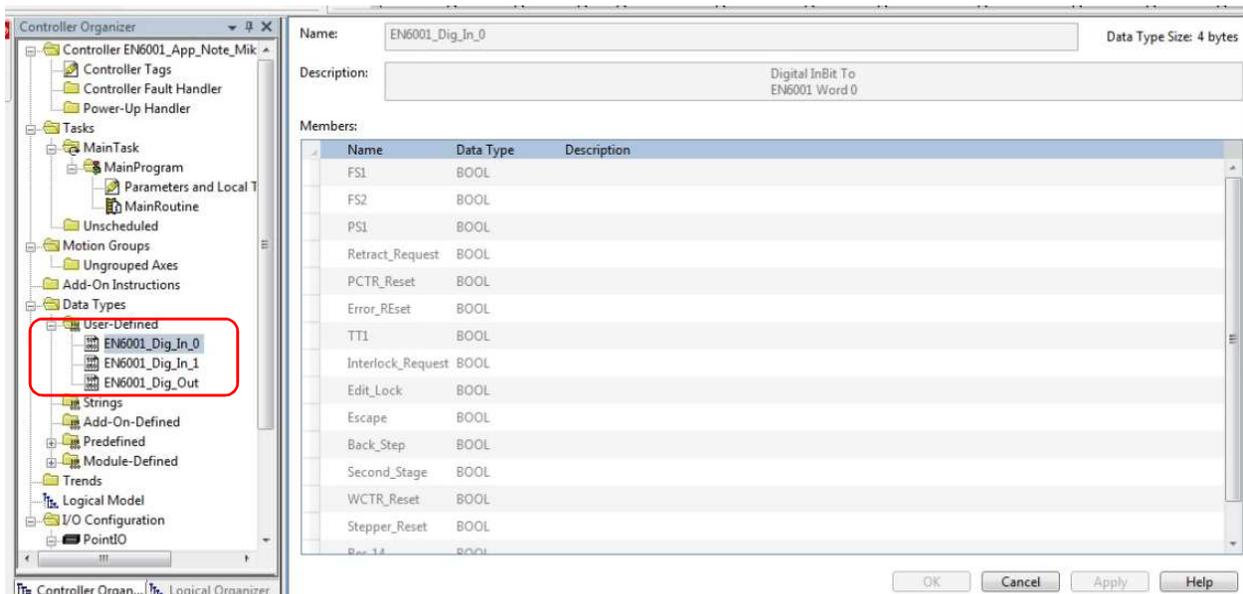

Figure 9 User Defined Data Type
2.2.2. Create three User Defined Data types (UDT) as described below. An example of this is shown in Figure 9. **Right Click** on the **User Defined** folder and select **New Data Type**. These data types will be used to map the EN6001 I/O to tags in the PLC. Each data type should have 16 bits. Any unused bit not dedicated to a specific function should be created as “Reserved”.